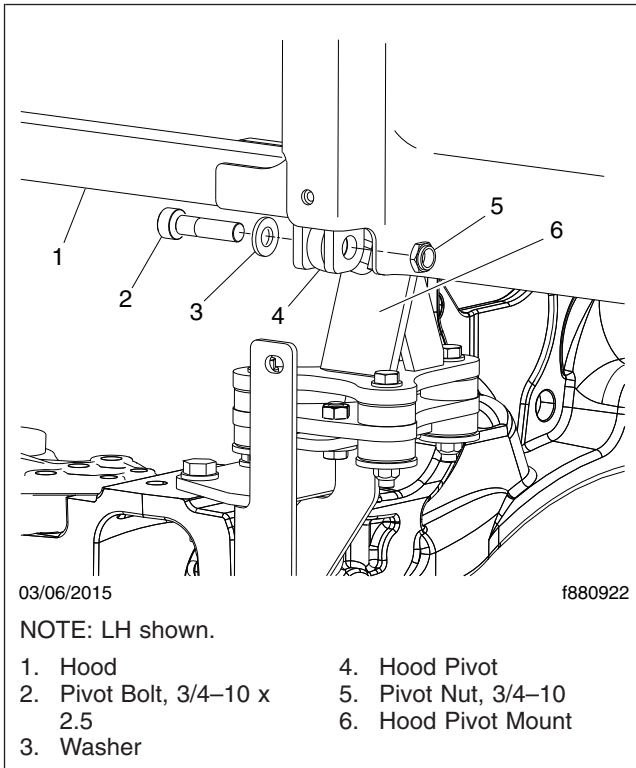

Fig. 3, Hood Pivot
7. Remove the hood pivot nut, bolt, and washer. See Fig. 3.
12. Using new fasteners (see Table 2), insert the pivot bolt and washer, and secure with the nut. See Fig. 3. Tighten the nut 260 lbf-ft (350 N·m).
See Table 2 and Fig. 3 for the pivot mounting replacement parts.